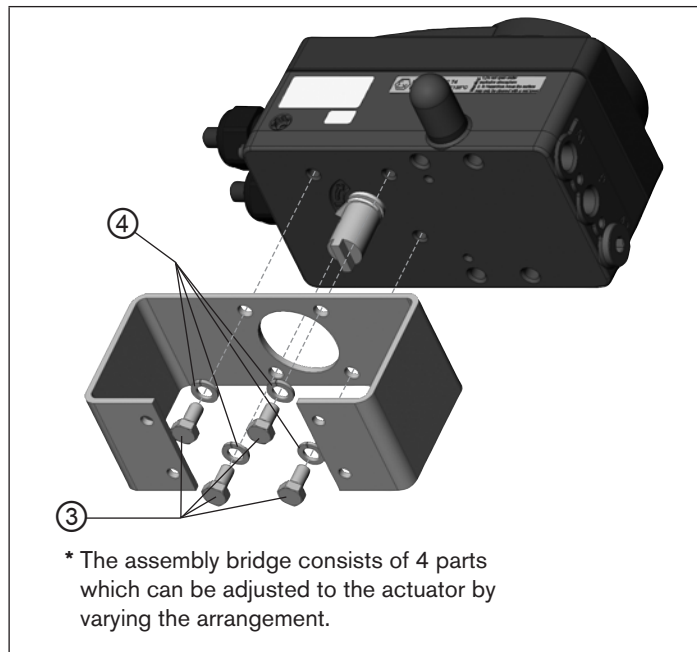

Fig. 7: Attach assembly bridge (schematic representation)
- Attach the assembly bridge to the Type EP 501/EP 501 C using 4 cheese-head screws ③ and circlips ④ (see „Fig. 7“).